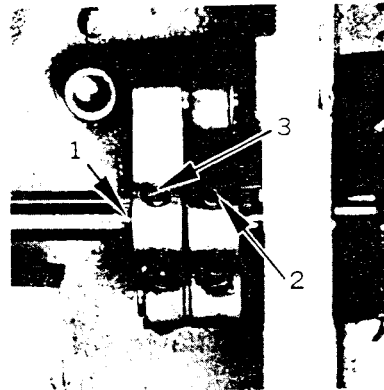

Fig. 16
1. Lay down the machine and check that the screw (2, Fig. 16) is securely tightened on the V ditch (1, Fig. 16).
1. Lay down the machine and check whether the screw (3, Fig. 14, Fig. 16) is securely tightened on the V ditch (1, Fig. 16).